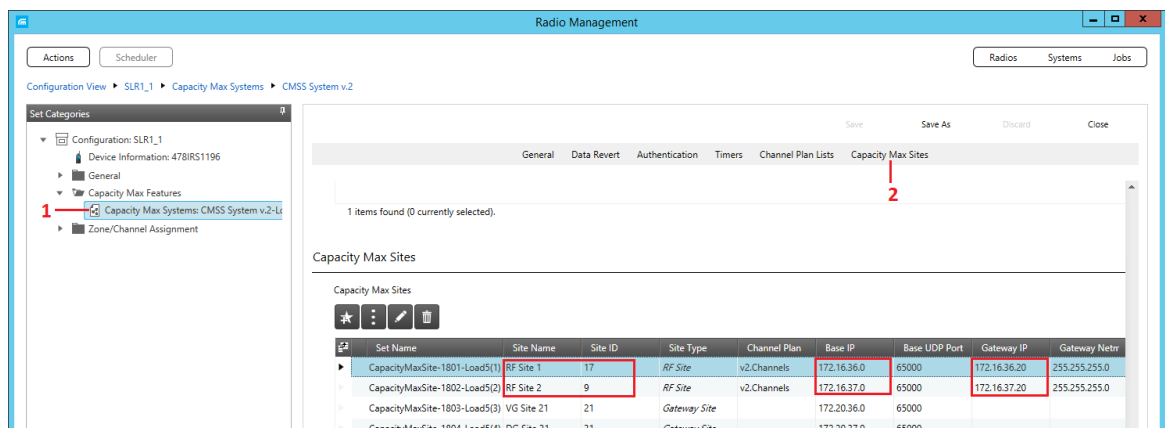

Figure 33: Opening the system sites
Site ID	The site ID. This setting must match the Site ID value in the Radio Management tool (Figure 33).
Base IP	The base IP address of the RF site. This setting must match the Base IP value in the Radio Management tool (Figure 33).
Gateway IP	The IP address for the site router. This setting must match the Gateway IP value in the Radio Management tool (Figure 33).
4. In the left pane, expand **Capacity Max Features** and click **Capacity Max Systems** (Figure 33, step 1).
5. In the right pane, click **Capacity Max Sites** (Figure 33, step 2).